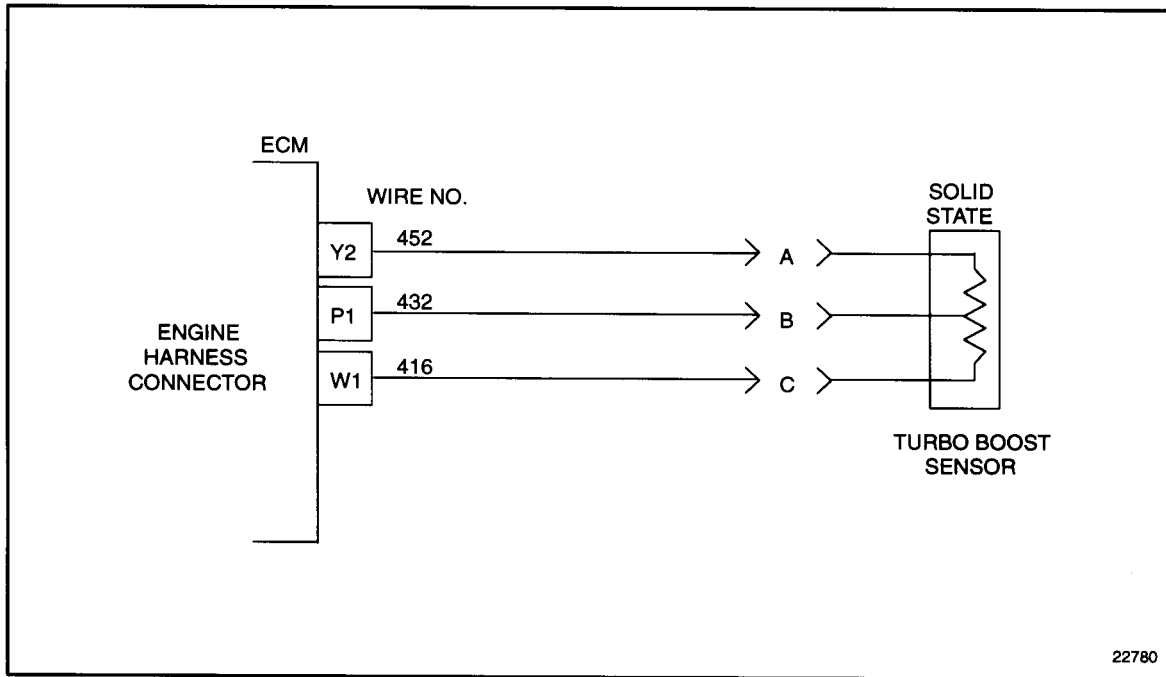

Figure 33-3 Turbo Boost Sensor
2. Install a jumper wire between pin A and pin B of the TBS harness connector. See Figure 33-3.